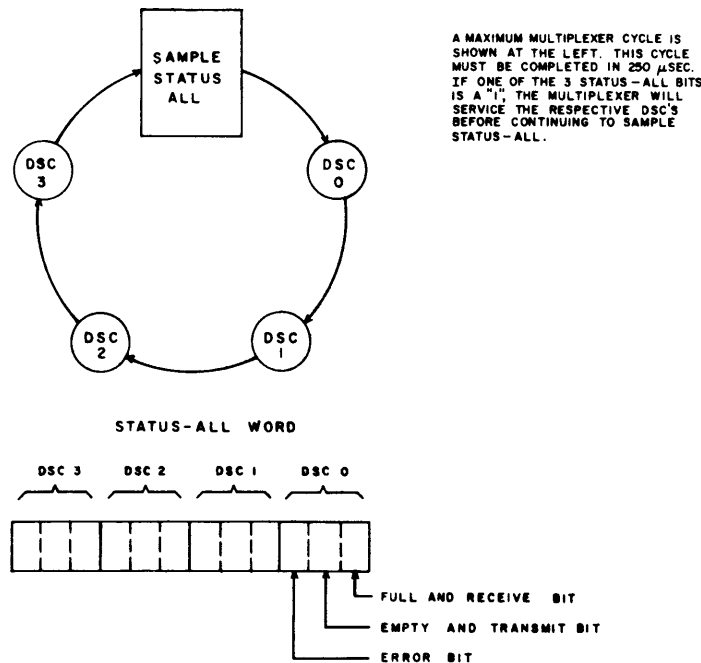

Figure 7. Multiplexer Cycle
- a) This enables the Empty and Transmit status bit in DSC 0 portion of status-all word (Figure 7).
- 2) Step 1 (Figure 7) transfers the first data word to the A/D register. This enables the following: